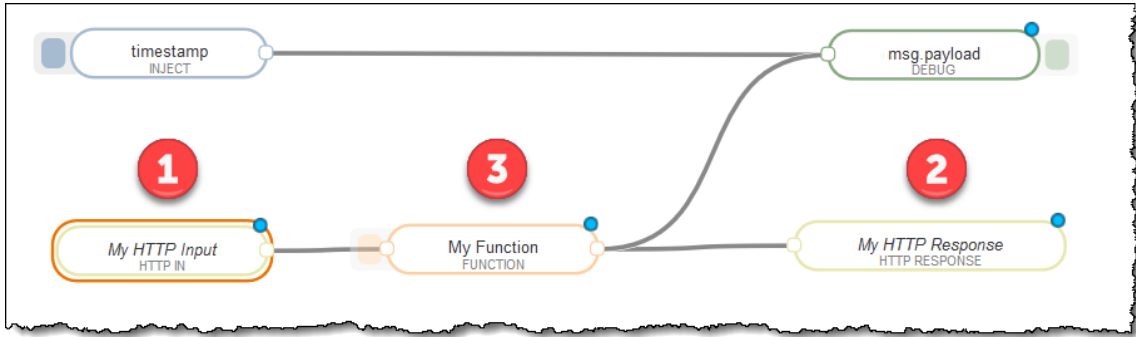

Figure 5.31 – HTTP/Debug Flow Project
3. Arrange and connect the nodes as shown in Figure 5.31.